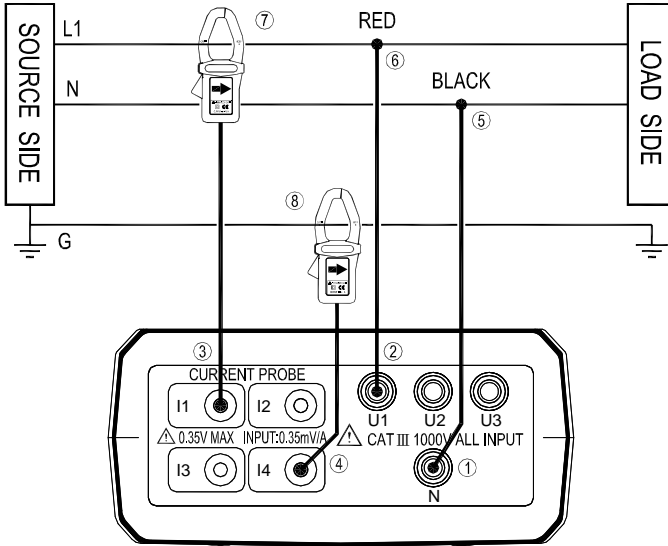

Figure 5. 1P2W Wiring Connection Diagram
- ① Connect the black voltage test lead to the “N” terminal.
- ② Connect the red voltage test lead to the “U1” terminal.
- ③ Connect the I1 current probe to the “I1” socket.
- ④ To measure ground leakage current, connect the I4 current probe to the “**I4**” socket.
4. Connect the voltage test leads and current probes to the electrical equipment to be tested as shown in Figure 5. 1P2W Wiring Connection Diagram.